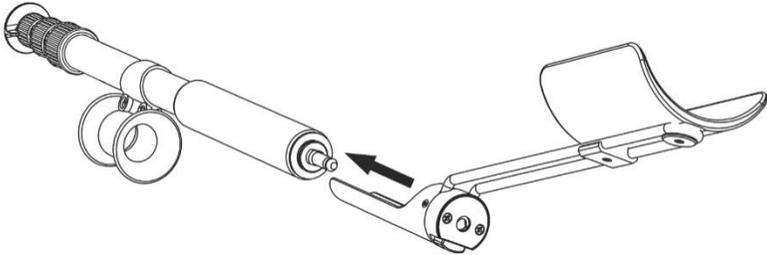

Figure 2.5 – Attaching the armrest to the telescopic rod
2.2.5.2 Attach (or detach) the armrest to (from) the telescopic rod (Figures 2.5, 2.6).